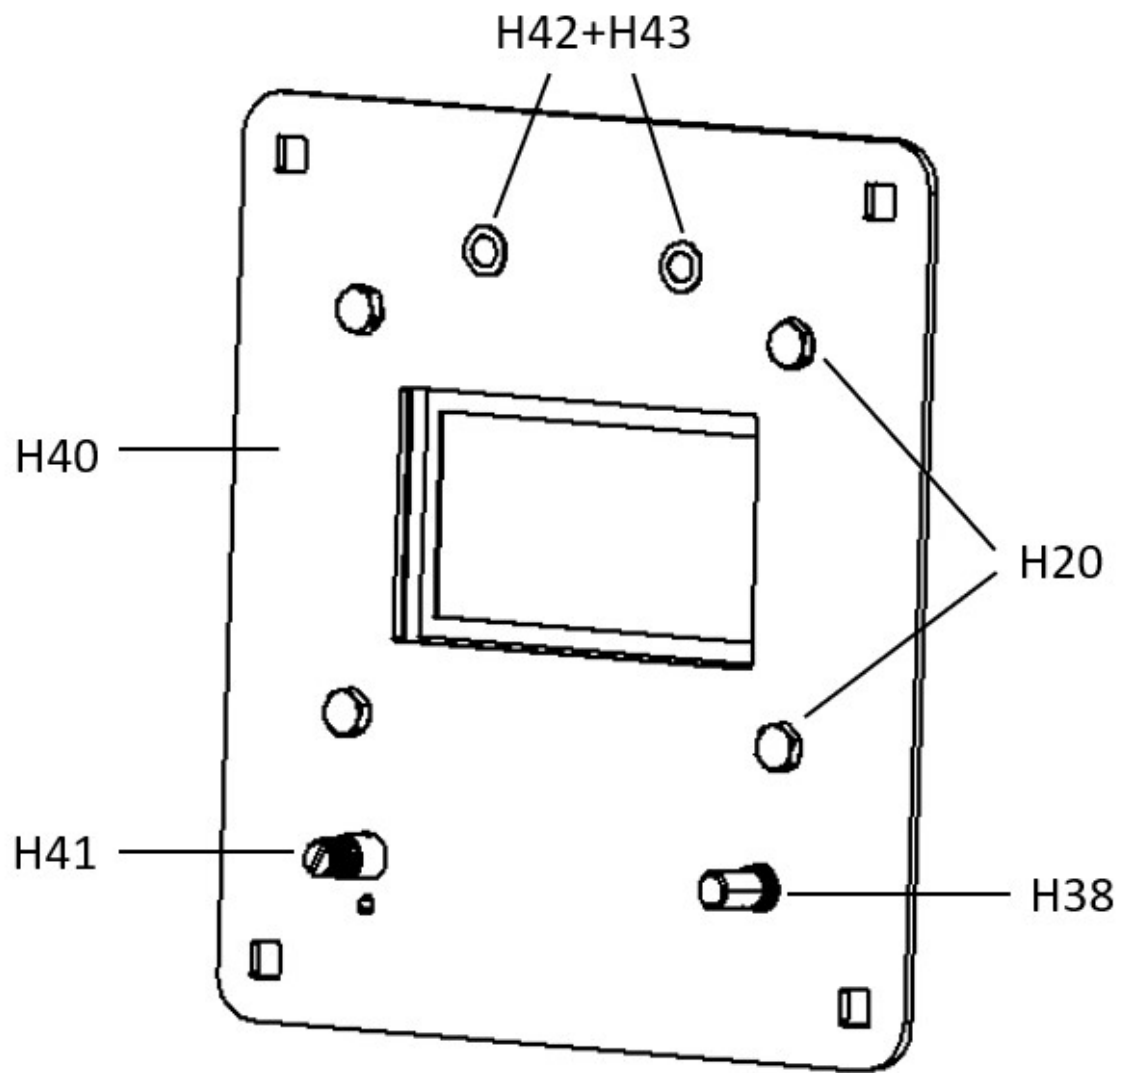

Figure 17: Front view of the User Interface
4. Fasten the H38 RotarySwitch and the H41 Potmotor as shown. Make sure it looks like figure 17.